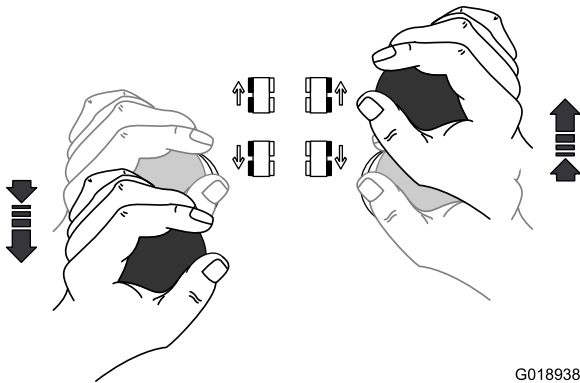

Figure 41
- To turn the machine **left**, grasp the both traction-control levers with your hands and pull the left, traction-control lever backward, and push the right, traction-control lever forward (Figure 41).